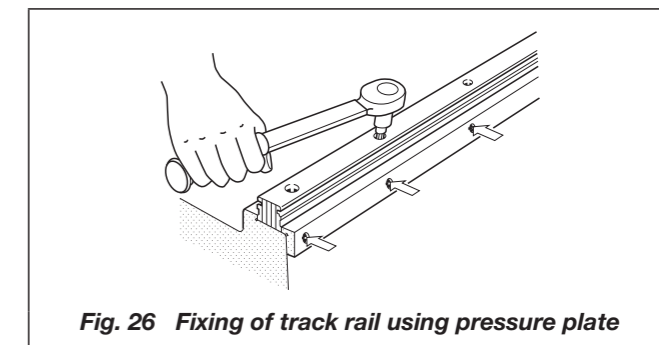

Fig. 26 Fixing of track rail using pressure plate
- Firmly press the reference mounting surface of Linear Way I track rail to the mating reference surface of the bed with pressure plates or pressure screws. Tighten the mounting bolt of the track rail at the pressure plate or screw position from one end of the track rail to the other in succession. (See Fig. 26.)